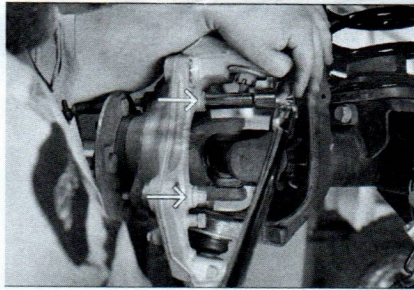

Figure 22. Unit Bearing/Hub Bolt Install
27. Re-install the unit bearing/hub/axle shaft assembly. Be careful when installing the axle shafts to not damage the inner axle seals and ensure the splines line up in the differential. We recommend cleaning all the hub bolts with brake cleaner and a wire brush, and then using high strength threadlocker on installation. Carefully thread the ABS sensors through the brake backing plates. Torque unit bearing/hub bolts to 75 lb-ft. See Figure 22.